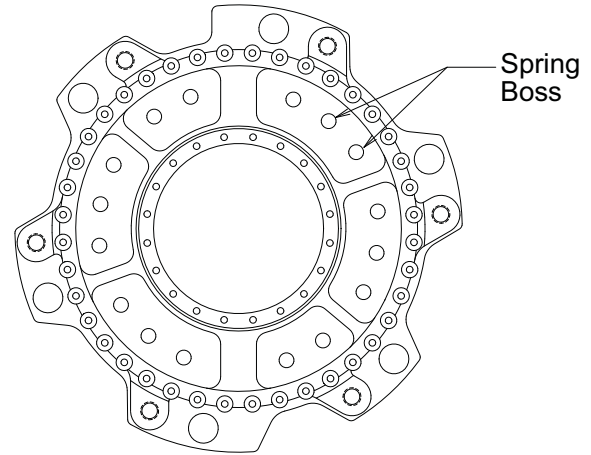

Figure 17 : Spring locations
- 4.7.7 Install the springs in a symmetrical pattern on the pressure plate subassembly (13), distributing them as evenly as possible. Locate the springs over bosses or on the spring pockets in the pressure plate, as shown in **Figure 17**. If applicable, position the spring retainers (53) on top of the springs to hold the springs into position.
- 4.9.10 Install the springs in a symmetrical pattern on the pressure plate subassembly (13), distributing them as evenly as possible. Locate the springs over bosses or in the spring pockets of the pressure plate, as shown
in **Figure 17**. If applicable, position the spring retainers (53) on top of the springs to hold the springs into position.
- 4.9.11 Lower the spring housing (16) over the studs, springs and spring retainers, if applicable, aligning the match marks made during disassembly. Be sure that the cast ribs in the spring housing do not interfere with the spring retainers. If necessary, reposition the spring retainers.